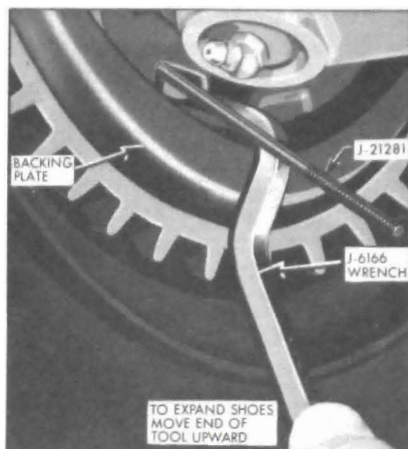

Figure 9-11—Expanding Brake Shoes
1. Remove adjusting hole cover from brake backing plate. Install J-21231 through adjusting hole to move actuator off adjusting screw. Use J-6166 to turn brake adjusting screw, expand brake shoes at each wheel until the wheel can just be turned by hand. Moving end of tool in hand upward expands the shoes. See Figure 9-11. The drag should be equal at all wheels.
NOTE: It may be necessary to back off the brake shoe adjustment before the brake drums can be removed. To back off shoe adjustment, rotate shoe adjusting screw upward. See Figure 9-11.
6. Separate the brake shoes by removing adjusting screw and lock spring. Remove parking brake lever from secondary brake shoe (rear only). See Figure 9-11.
4. Place brake shoes on backing plate, at the same time engaging shoes with wheel cylinder links. The primary shoe (short lining) goes forward. On rear brakes, connect cable to parking brake lever and install strut and spring between lever and primary shoe as shown in Figure 9-11.
5. Install actuator, actuator return spring and actuating link as shown in Figure 9-11.
9. Install J-21231 through adjusting hole to move actuator off adjusting screw. See Figure 9-11.